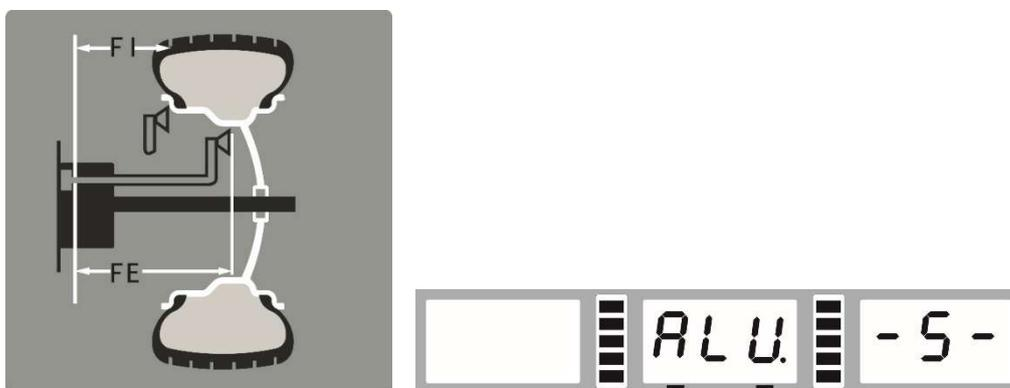

Fig. 9
- Set aI value: Pull out the meter and touch the FI position for 4 seconds (**Fig. 9**) to change the value  or press  ..
- Set aE value: Pull out the gauge and touch the point FE for 4 seconds, (**Fig. 9**), measure value to change the value  or press  ..